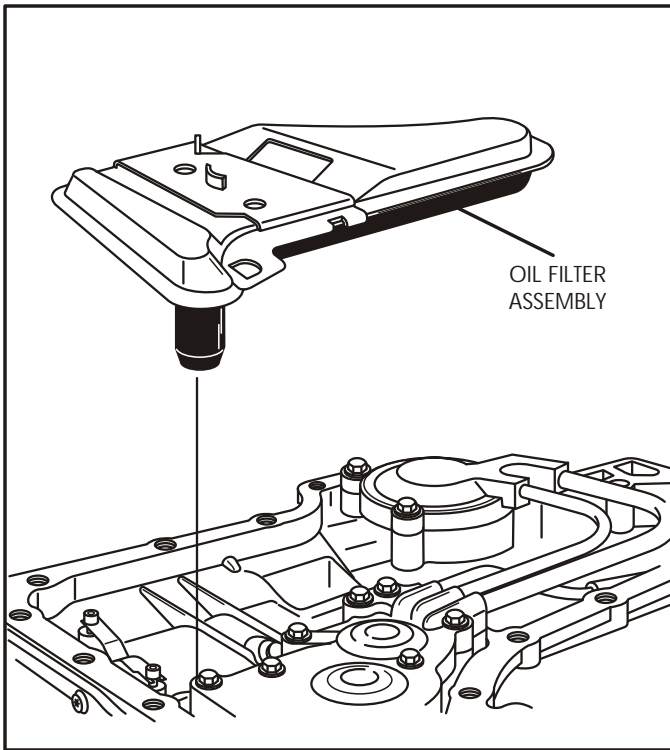

Figure 205
23. Install the bottom pan oil filter assembly into transaxle case as shown in Figure 205. Use a plastic mallet to *gently* tap the oil filter into the seal.